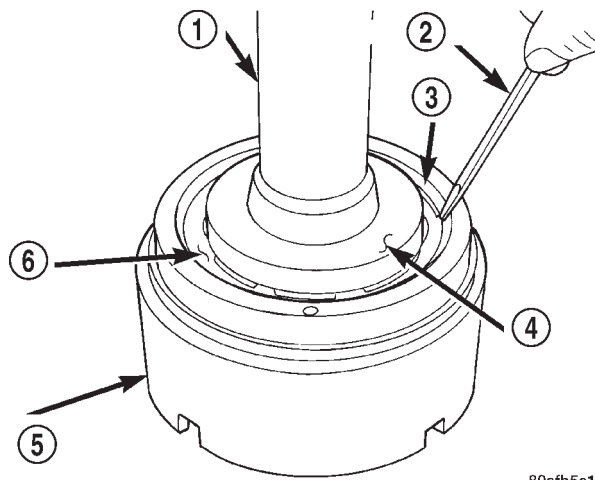

Fig. 250 Remove Snap Ring
(24) Using Tool 6057 and an arbor press, compress return OD/Reverse piston return spring just enough to remove snap ring (Fig. 250) (Fig. 251).